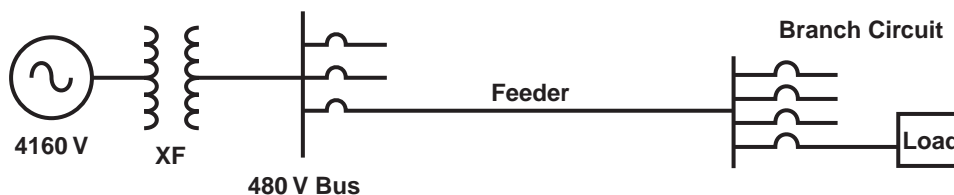

Figure 54.
**Example:** To better understand transformer taps, take a look at the 4160 V to 480 V distribution step-down system (see Figure 54).